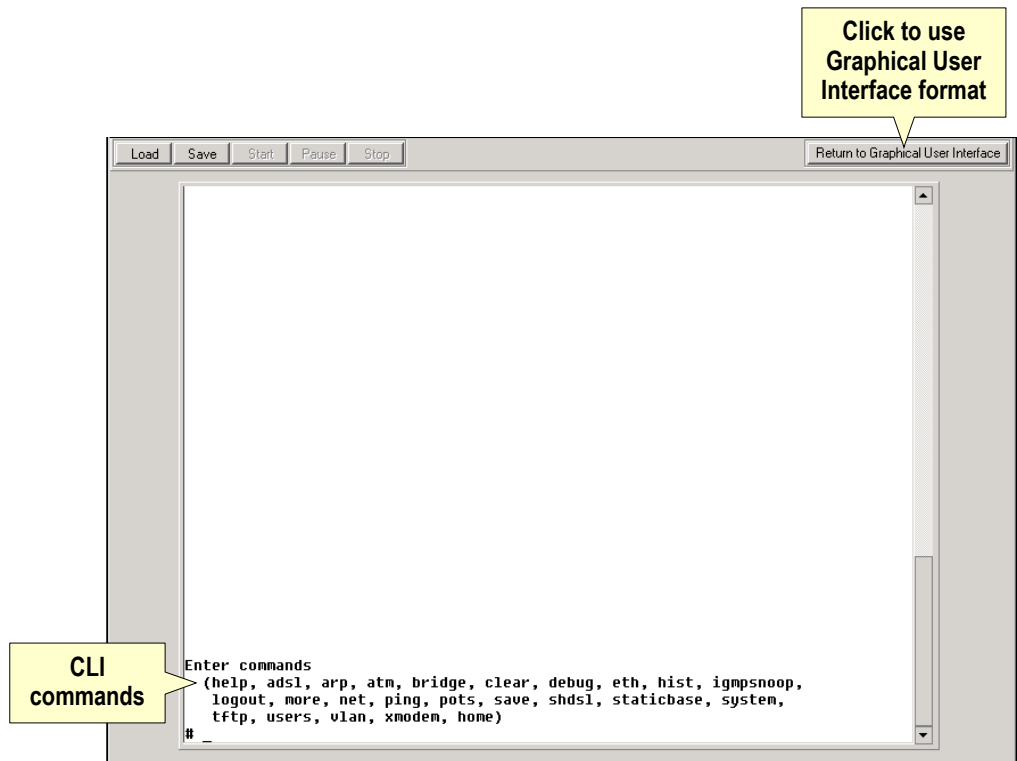

Figure 26 – Command Line Interface console screen
*The **FASTCraft – Command Line Interface** screen (Figure 26) appears.*
- 2 Press **Enter** to view top-level CLI commands Figure 26